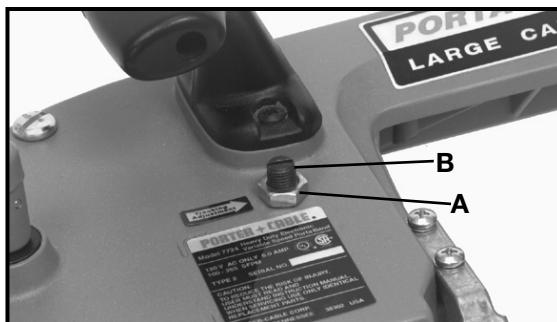

Fig. 5
2. Use a $\frac{9}{16}$ " wrench to loosen the adjustment locking nut (A) Fig. 5, by turning it counterclockwise, one or two turns.
3. Use a flat screwdriver to turn the tracking screw (B) Fig. 5, $\frac{1}{4}$ turn. Turning the screw clockwise will move the blade further up, toward the blade guide rollers. Turning the screw counterclockwise will move the blade down, away from the blade guide rollers.